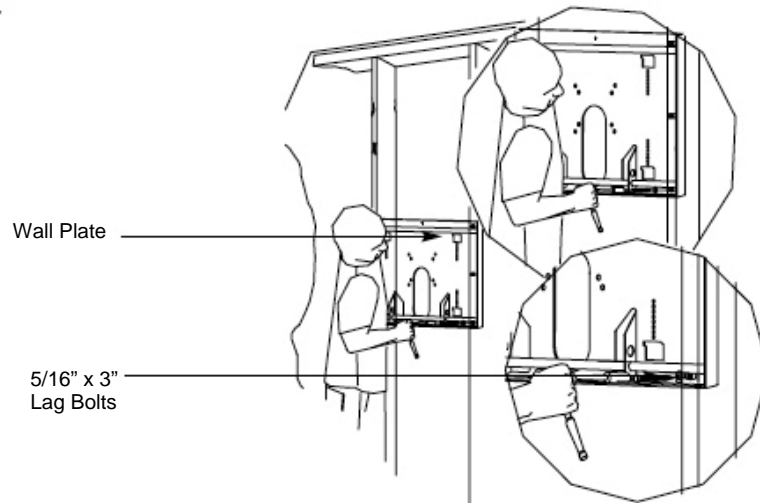
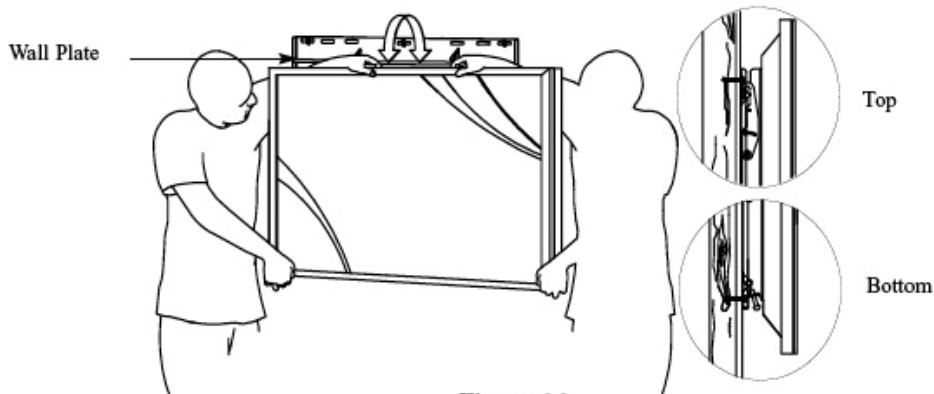

Figure 15
Figure 16
3. Place the wall plate to the reference line and mark the six (6) lag bolt mounting points through the wall plate slots on the wall..
4. Level the wall plate with the reference arrow pointing up to the ceiling (Figure 15).
5. Drill six (6) $\frac{1}{4}$ " pilot holes to the marked wall.
6. Secure the plate using the six (6) $\frac{5}{16}$ " lag bolts and flat washers (Figure 16).
1. Raise the flat panel with the mounting brackets secured to the flat panel and insert the top hooks over the upper rod. The lower hooks should rest on the lower rod (Figure 16).